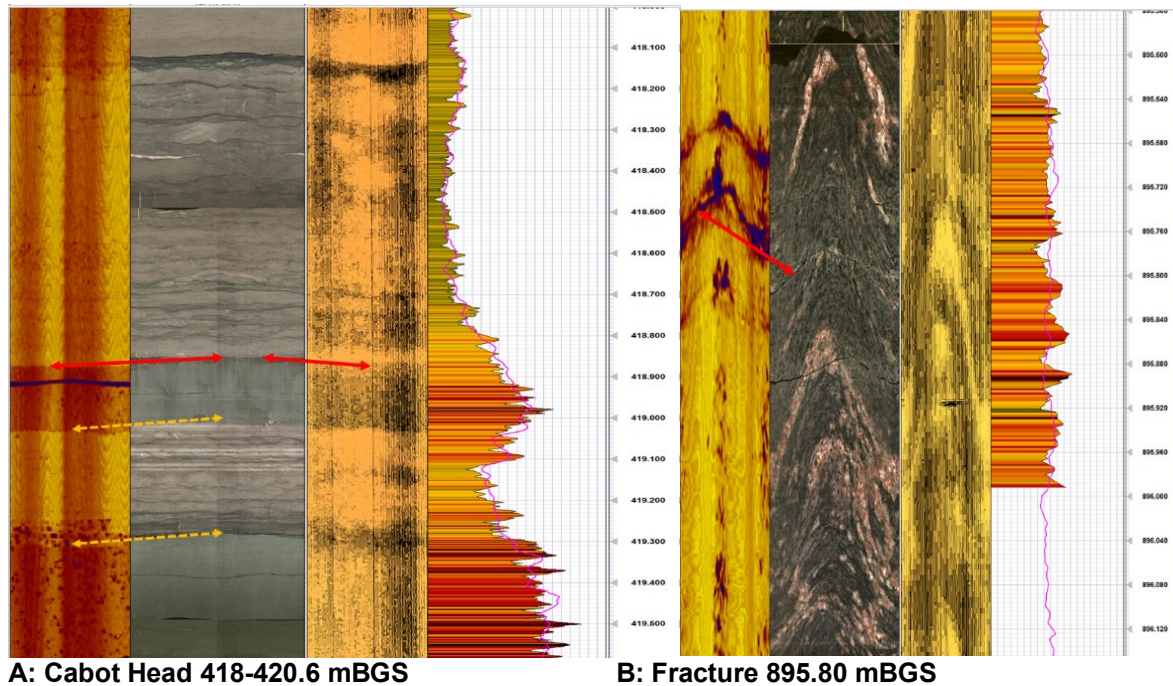

Figure 4 ATV (Gamma) to Core Offset after Depth Adjustment
2. The ATV and gamma data were stretched to match select unambiguous distinctive features in core photos where there was 100% core recovery and therefore high confidence in depth position. Two such features were selected in SB_BH02 and include (A) midway along the borehole near the Cabot Head boundary (418.85 mBGS) and (B) a set of three fractures near the bottom of the borehole within the Precambrian (895.80 mBGS) (Figure 4).